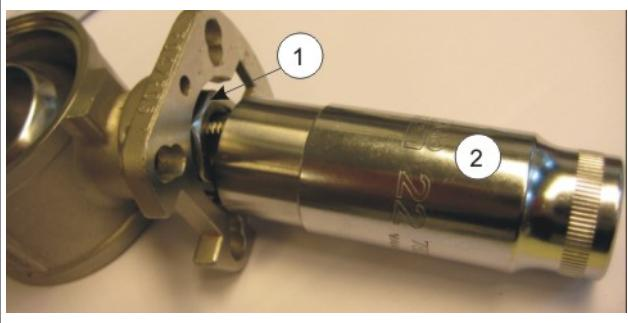

Fig. 14. Opening the nut.
2. Open the fastening nut (Fig. 14, part 1). To open the nut, use a 22mm socket (part 2) with an outer diameter less than 28.5mm.